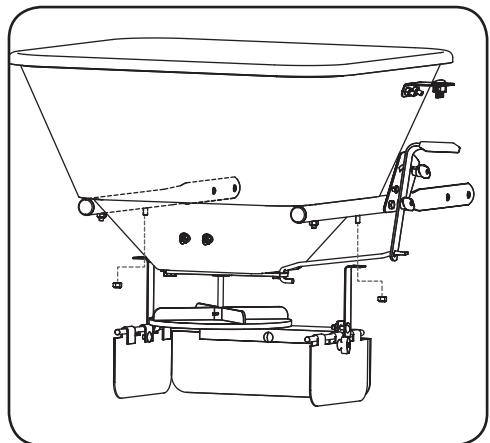

Figure 1-13
2. Line the deflector up so that the opening in the deflector plates faces backward. Secure the deflector to the front hopper/frame tube bolts with the nuts removed in the previous step. See Figure 1-13.